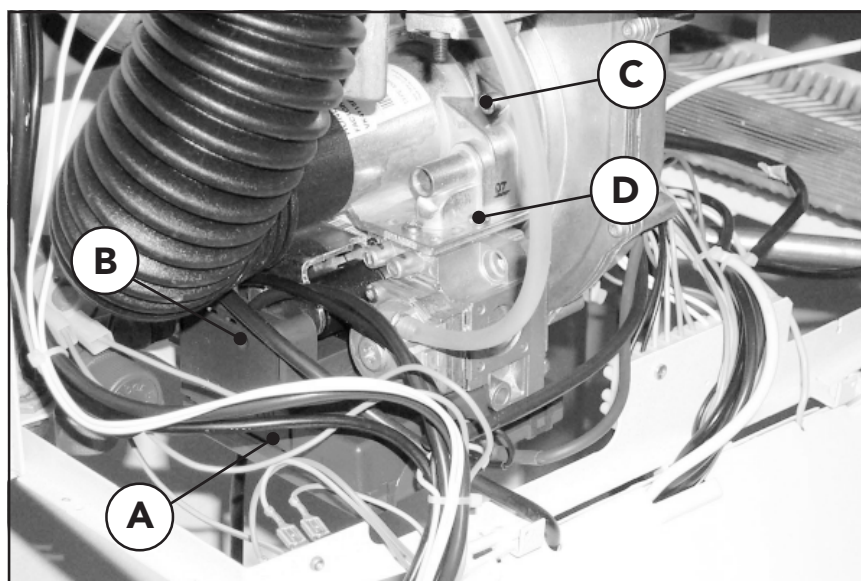

Fig. 24
- Unscrew the fastening screws "C" (fig. 24) and remove the Venturi unit + gas valve